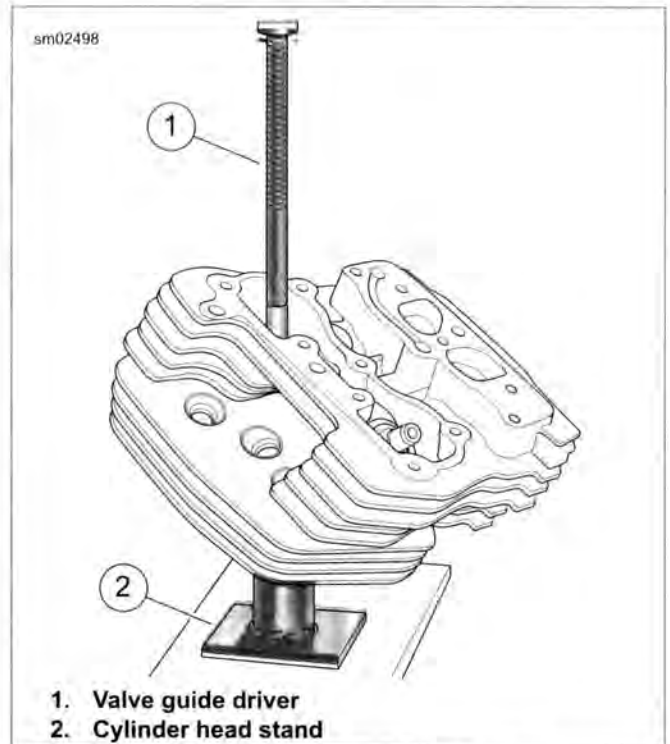

Figure 3-38. Remove Valve Guide
3. Insert VALVE GUIDE DRIVER (Part No. B-45524-1) (1) into valve guide bore.
4. See Figure 3-38. Center valve guide driver under ram of arbor press. Apply pressure until valve guide drops free of cylinder head. Discard valve guide.